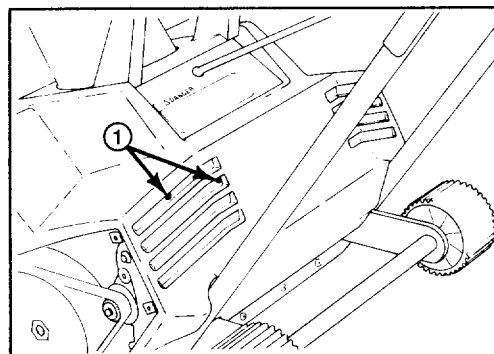
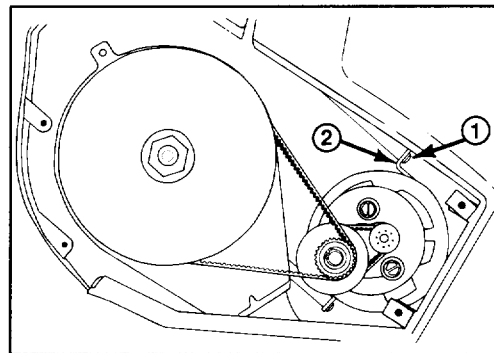

Figure 14
Figure 15
3. Insert a Phillips screwdriver through holes in rear of shroud (Fig. 14) and loosen the (2) screws holding the motor mounting brackets (Fig. 15). Use caution not to damage wires behind shroud.
Note: If motor was rotated to loosen the belt, you must first retighten the (2) mounting bracket screws through back of shroud (Fig. 14 & 15).
8. Rotate the mounting plate clockwise until the belt is tightened to 32 lbs, then tighten the (2) $5/16"$ socket head screws securing mounting plate.